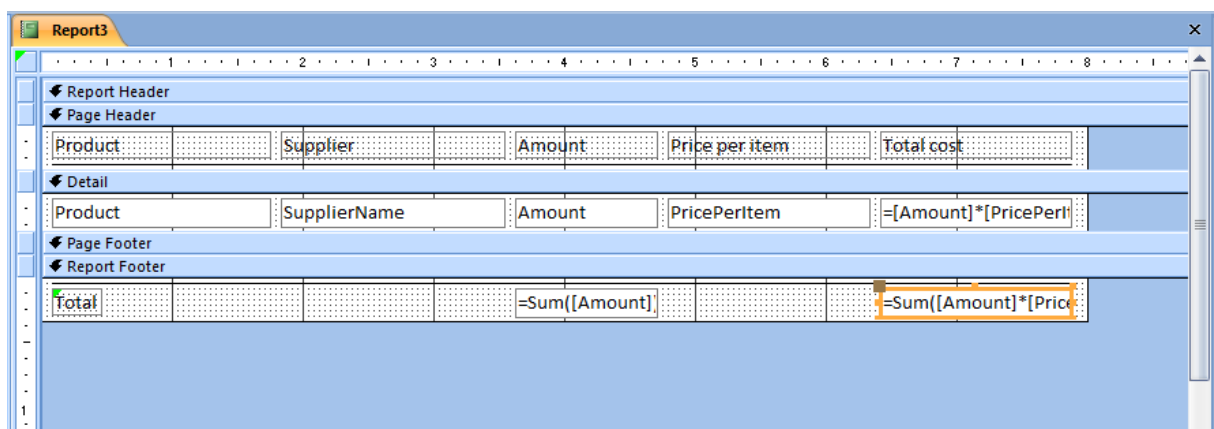

Figure 4.3
- 5) Create report layout using “Label”, “Text Box”, and “Line” controls to display query fields “Product”, “SupplierName”, “Amount”, and “PricePerItem” as it is shown in figure 4.3;
6) Use the “Text Box” control to create object that provides calculation of total cost for each row. Enter “=[Amount]\*[PricePerItem]” expression into the text box. Also create the label “Total cost” for this field or use the label that created automatically with the text box (figure 4.3). It was not necessary to create the field with expression. The query field “Total” might be use instead;